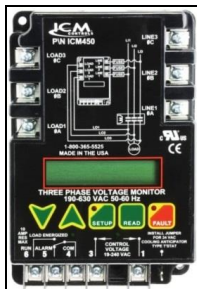

Figure 2
- Three-phase models may be equipped with a Standard Three-Phase Monitor (**Figure 1**) or the ICM Digital Three-Phase Monitor (**Figure 2**).